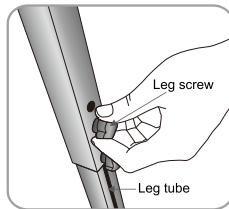

Figure 18
- Unfasten the locknut on legs and pull out the tubes and leave some hole for M8 x 90 mm locknut and fasten it ( Figure 18 - 20 ).